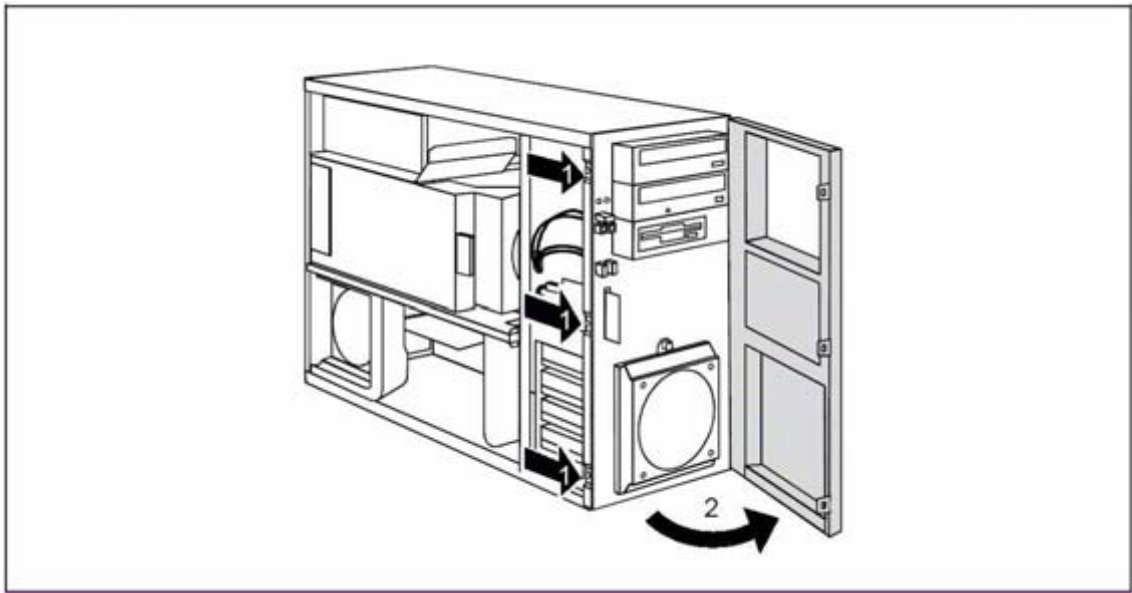

Fig. 51: Opening the front panel M450_
3. Detach the three locking tabs on the left side of the front panel (1/ Fig. 51 / p. 96).
4. Open up the front in the direction of the arrow (2/ Fig. 51 / p. 96).